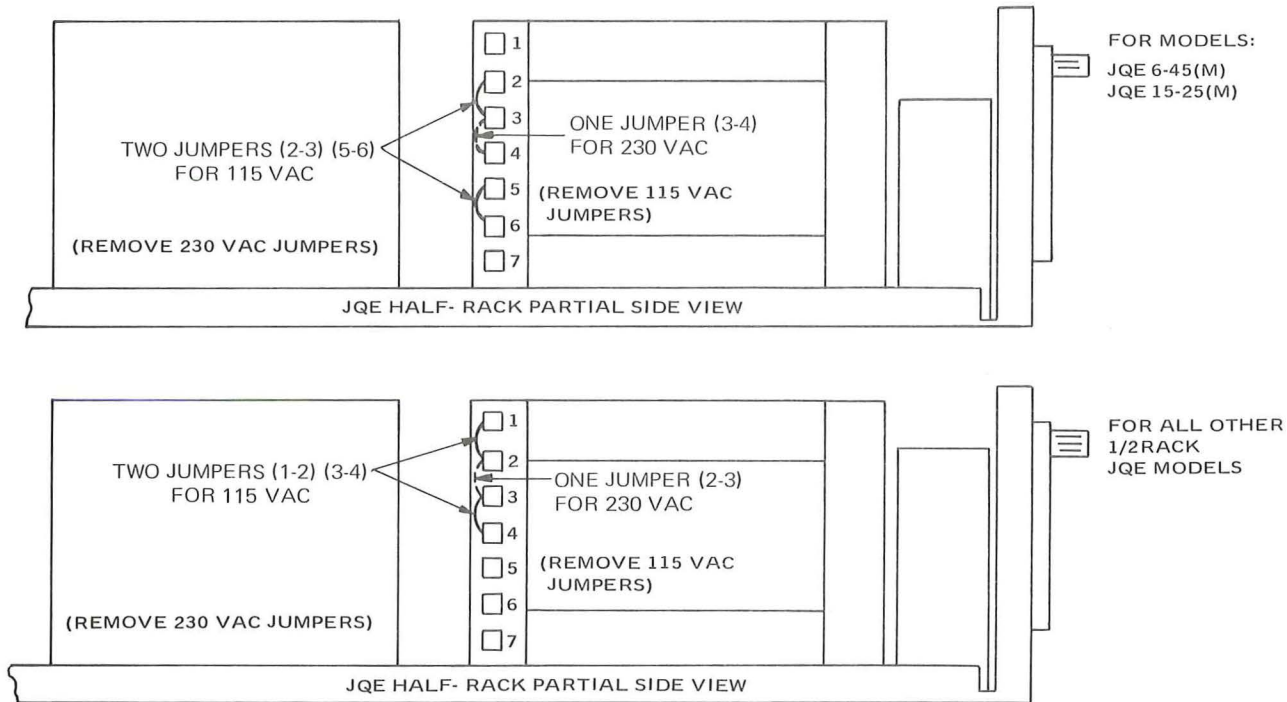

FIG. 2-2 CONVERSION TO 230V AC LINE OPERATION
2-5 This power supply is normally supplied for operation on a single phase, nominal 115V AC line. For conversion to 230V AC line operation, refer to FIG. 2-2. Remove the two wire jumpers between transformer terminals indicated. Re-connect one (1) jumper between terminals indicated. Do not change any other wiring on the transformer. Change main fuse value (F201) to 1/2 its former rating.